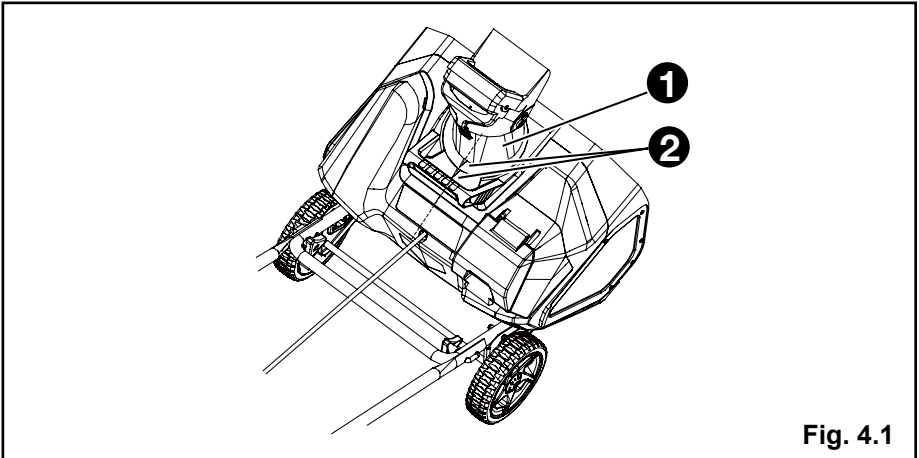

Fig. 4.1
- Position the discharge chute (1) so that it faces forward.
NOTE: Align the arrow (2) on the discharge chute with the arrow on the housing. (Fig. 4.1)